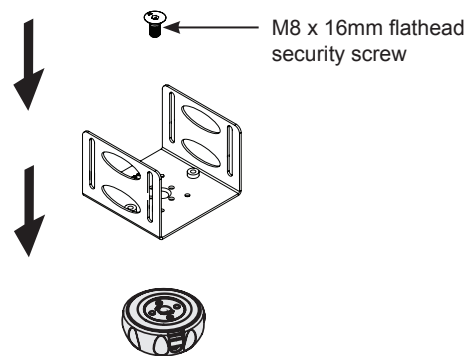

Figure 3
- 2 Following the “B” mounting-hole pattern (Figure 1), use one (1) M8 x 16mm flathead security screw to attach the SpiroLock™ spindle to the lower half of the mounting assembly (Figure 3). Do not overtighten.